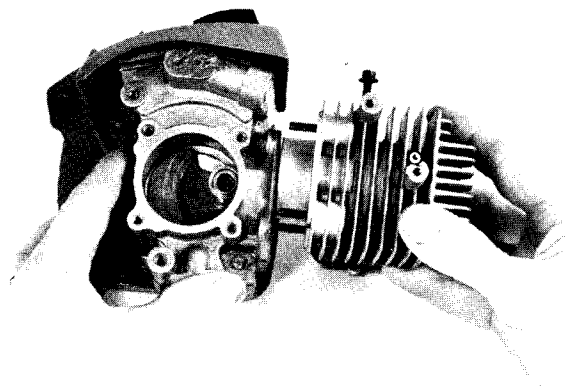

Fig. 18 — Removing/Installing Cylinder, Piston and Rod
14. Remove nuts securing cylinder to crankcase and move cylinder off studs. Carefully lift rod off crankshaft and remove rod, piston and cylinder as an assembly, Fig. 18.
6. Position crankshaft at T.D.C. then pivot connecting rod into recess area and install onto crankshaft, Fig. 18.